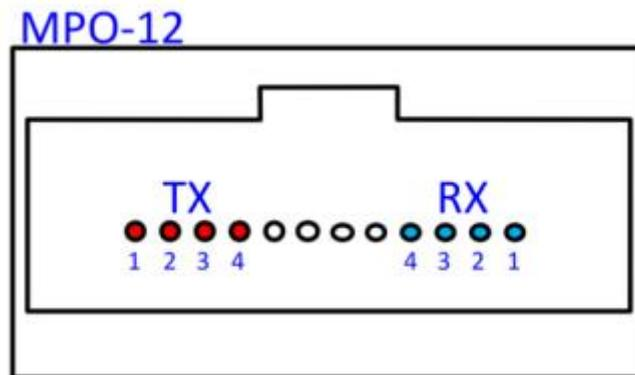

Figure 5. Optical Media Dependent Interface port assignments
The optical interface port is MPO-12 receptacle. The transmit and receive optical lanes shall occupy the positions depicted in Figure 5 when looking into the MDI receptacle with the connector keyway feature on top.
5. Receiver sensitivity (OMA_{outer}) is informative and is defined for a transmitter with a value of TECQ up to 4.4 dB. Receiver sensitivity should meet Equation (1), which is illustrated in Figure 5.